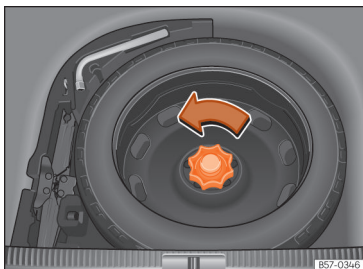

Fig. 221 In the luggage compartment: raised load floor.
- Turn the thumb wheel anticlockwise >>> **Fig. 221**.